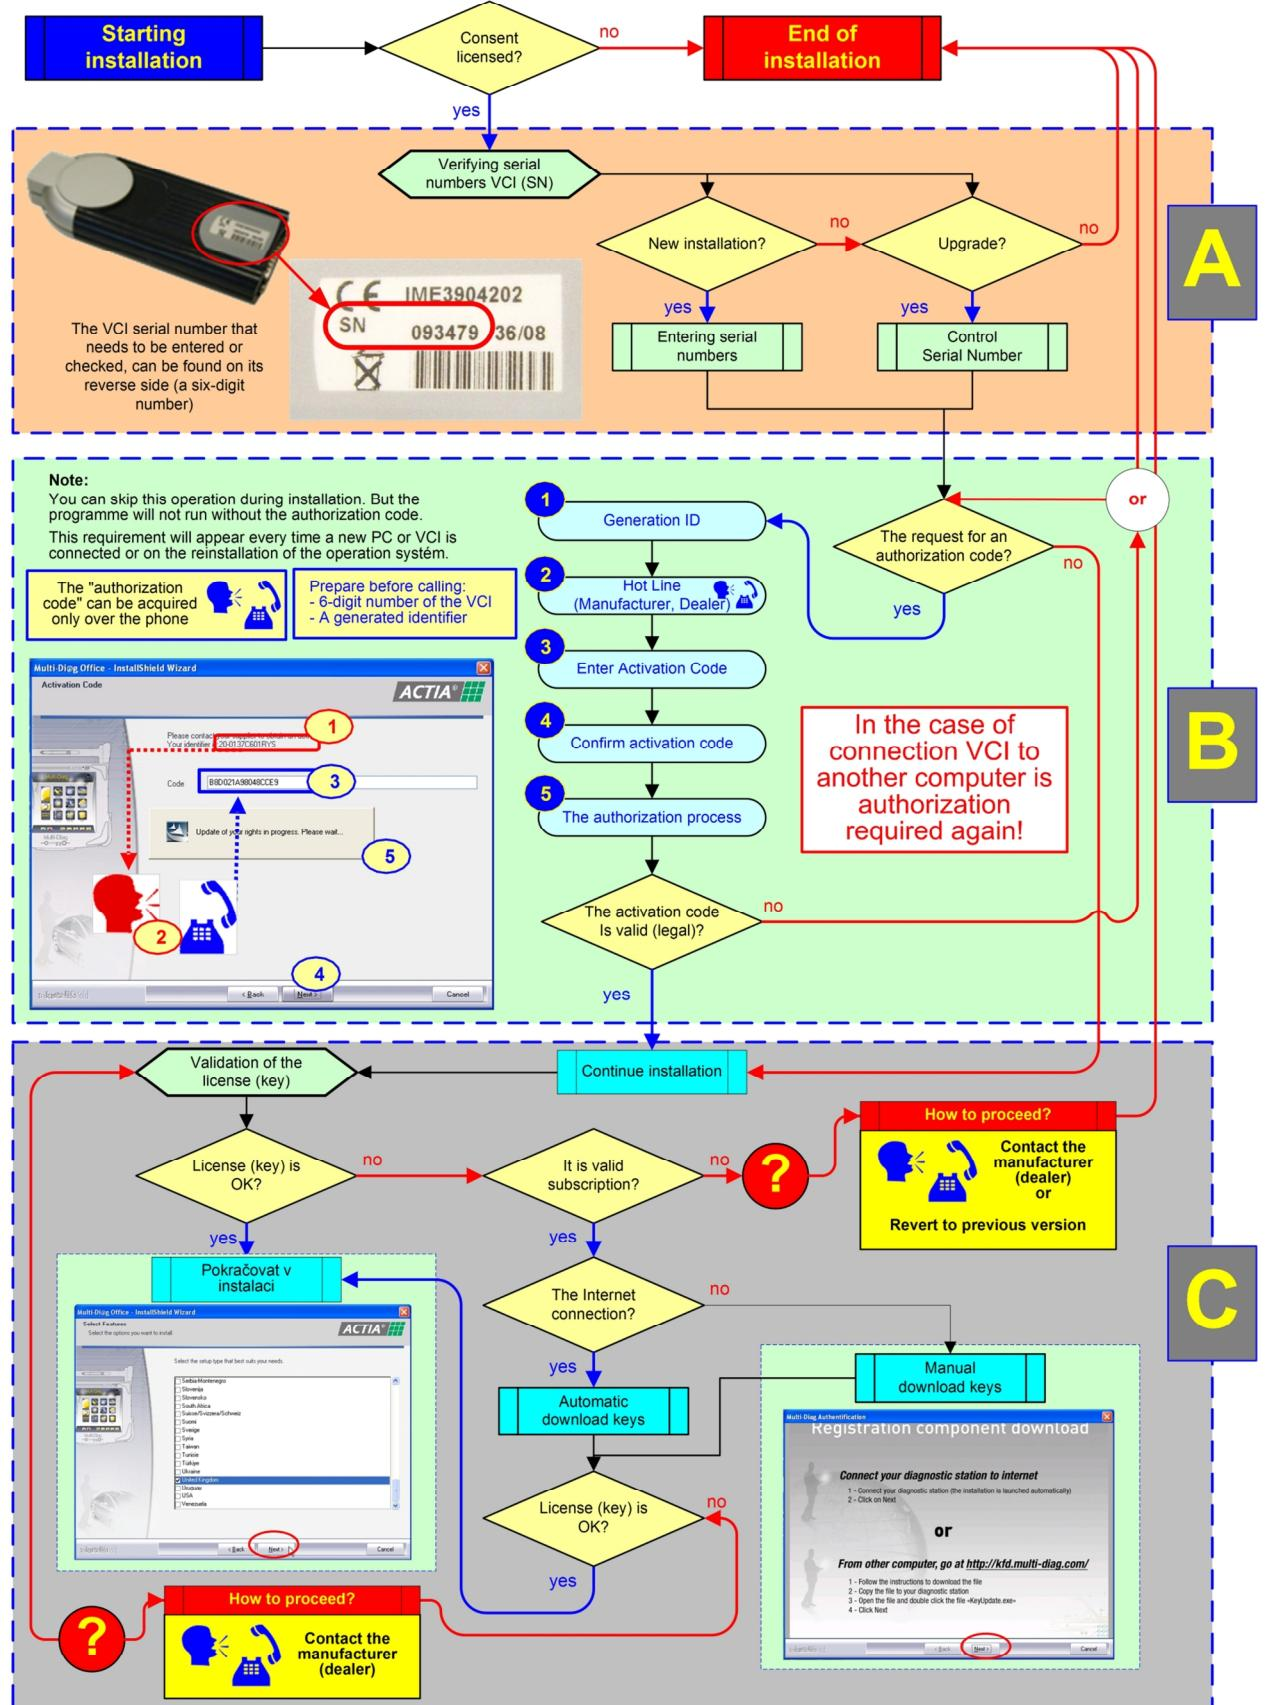

Fig. 9 – Installation of Multi-Diag Office (verification of the serial number, authorization code and license)
When installing Multi-Diag-Office, we recommend using the **installation (development) diagram** – see Fig. 9 depicting the individual steps of taking decisions when verifying the validity of the licence number, authorization code and the entitlement to use the actual installed software.
See the block diagram on Fig. 9 – section A
The serial number of the VCI interface that needs to be entered or checked (pos. 1), can be found on its reverse side (a six-digit number) – see Fig. 28 or **Fig. 9 – section A**.
See the block diagram on Fig. 9 – section B
See block diagram on Fig. 9 – section C